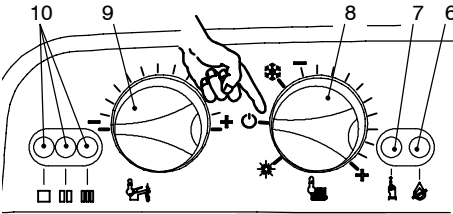

Fig. 8.5
- Turn the boiler OFF positioning the function selector 8 as indicated in Fig. 8.5.